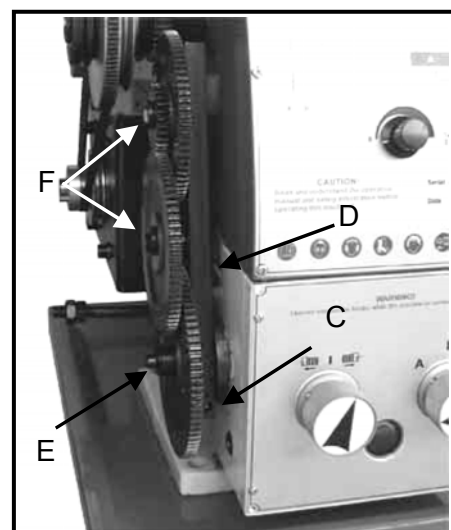

Fig. 23
3. Loosen the locking screw (C, Fig.23) on the change gear support.
4. Swing the change gear support (D, Fig.23) to the right.
5. Unscrew the bolt (E, Fig.23) from the leadscrew or the square bolts (F, Fig.23) from the quadrant bolts in order to remove the change gears from the front.
9. Secure the change gear support with the locking screw (C, Fig.23)